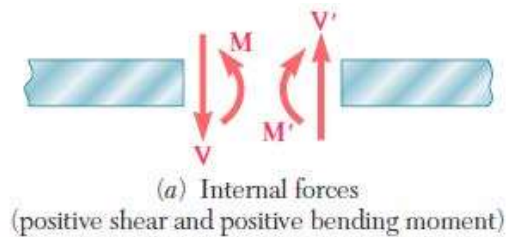

Figure 2.5
- The shear V and the bending moment M at a given point of a beam are said to be positive when the internal forces and couples acting on each portion of the beam are directed as shown in Figure 2.5.